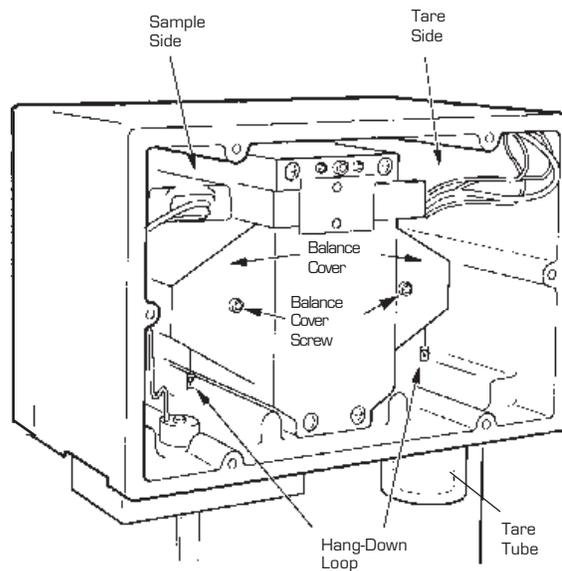

Figure 2.11
3. Loosen and remove the thumbscrew holding the balance cover on the sample (left) side of the balance mechanism (Figure 2.11), and take off the cover. Repeat this step for the tare (right) side of the balance mechanism.